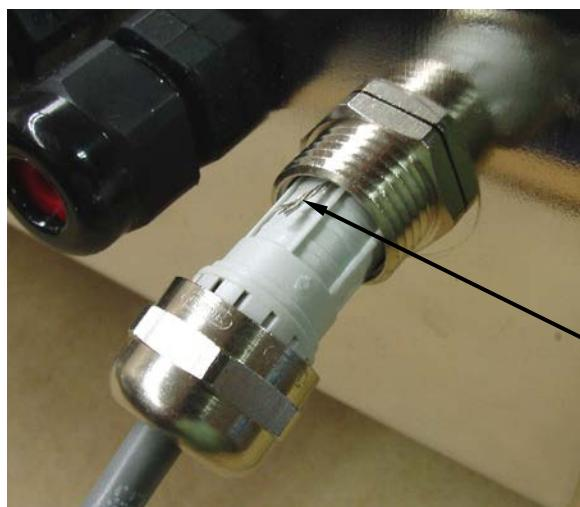

Figure No. 15
10. Referring to Figure No. 15, fold the shield wire back over the plastic insert and then insert the plastic insert (with the shield wire) into the gland connector.